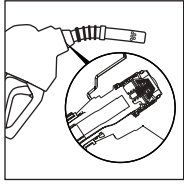

Figure 14
- Leak indicated at spout tip. Spout adaptor o-rings may be damaged (nozzles with vapor valve). (See Figure 14)
- Hose point fails low. Leaking at spout tip indicated. Spout adaptor o-rings may be damaged. (See Figure 14)